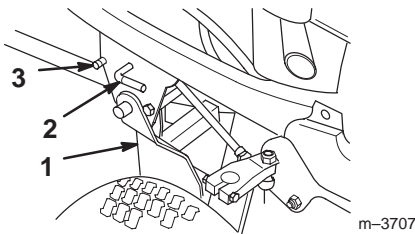

Figure 31
1. Press the button of the mid Attach-A-Matic hitch and carefully turn the lever clockwise to release the snowthrower (Fig. 31).